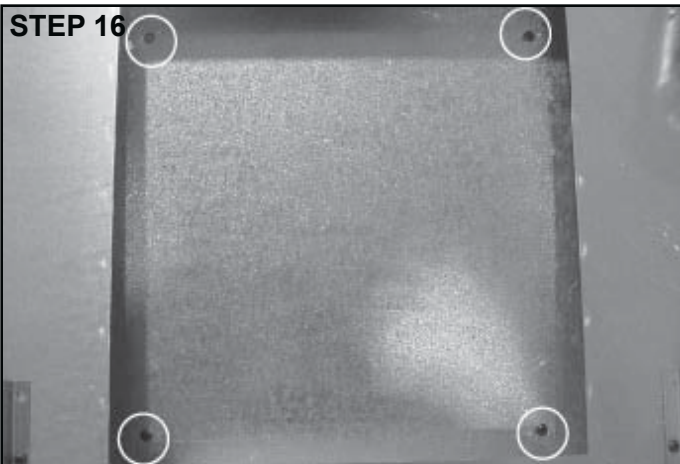

Figure 9.19 Cover Plate-Replace
- Locate heat shield cover plate removed in the first step. Place the heat shield cover plate on top of heat shield. Replace four screws to hold this plate in place. See Figure 9.19.